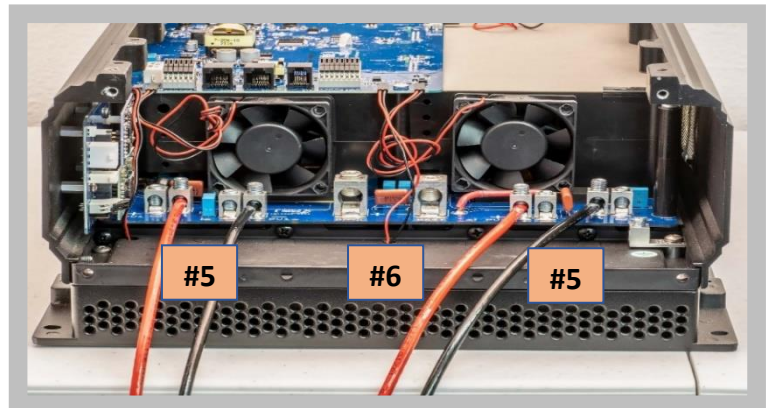

Figure 3
**Terminal Block #5 (Figure 3)** – PV input terminal blocks. Two input channels, two MPPTs.
**Terminal Block #6 (Figure 3)** – Connect the Battery Bank cables here. Use **#2/0 AWG** cables.